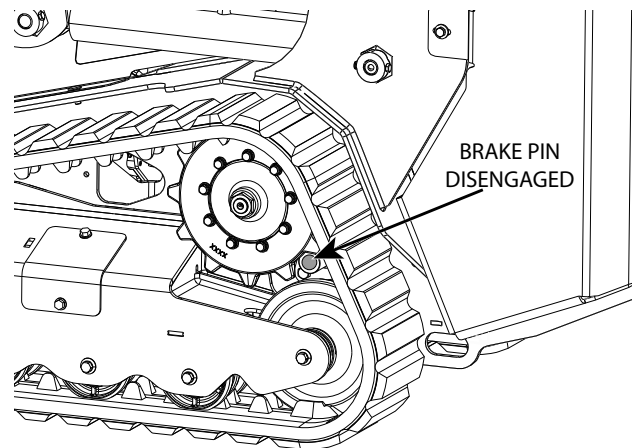

Figure 5-3. Brake Disengaged
3. With the brake lever disengaged position, check the brake shaft pin and ensure that the brake shaft pin clears the track sprocket. See Figure 5-3.